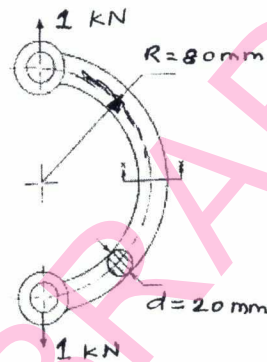

Fig.Q1(a)
- 1 a. A curved link mechanism made from a round steel bar is shown in Fig.Q1(a). The material for link is plain carbon steel 30C8 with an allowable yield strength of 400 MPa. Determine the factor of safety. (10 Marks)